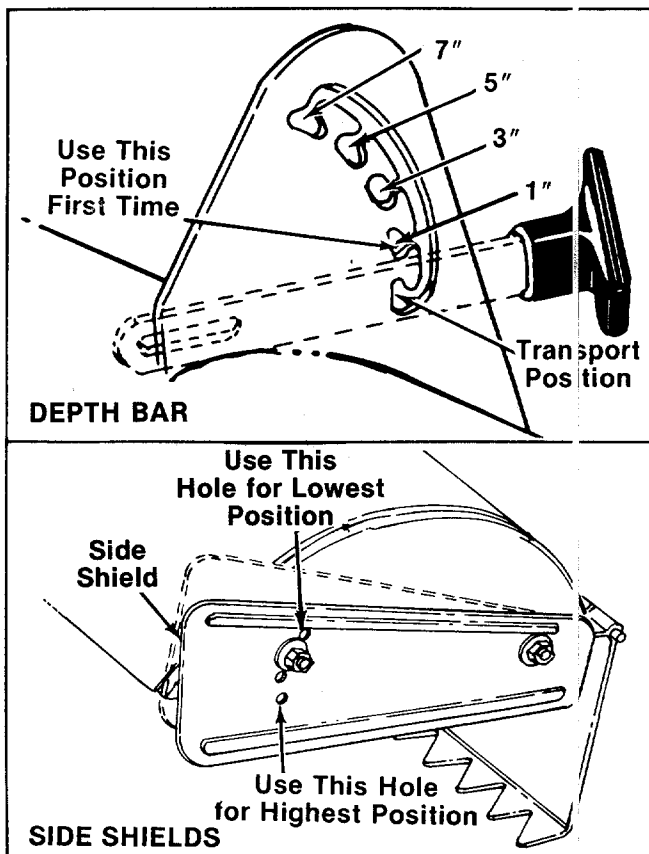

FIGURE 22.
When operating the tiller for the first time, use the depth bar setting that gives 1 inch of tilling depth (second slot from the bottom). Refer to figure 22. Use first speed only.
Tilling depth is controlled by the depth bar which can be adjusted to five different settings. See figure 22. Adjust the side shields as shown in figure 22 as you adjust the depth bar. Be certain spark plug wire is disconnected and grounded against the engine.
1. When using the tiller for the first time, use the second adjustment slot from the bottom (1" of tilling depth). See figure 22.
To adjust the depth bar, lift up on the tiller handles. Pull the depth bar handle assembly and move the depth bar to desired setting. Release the handle. See figure 22.